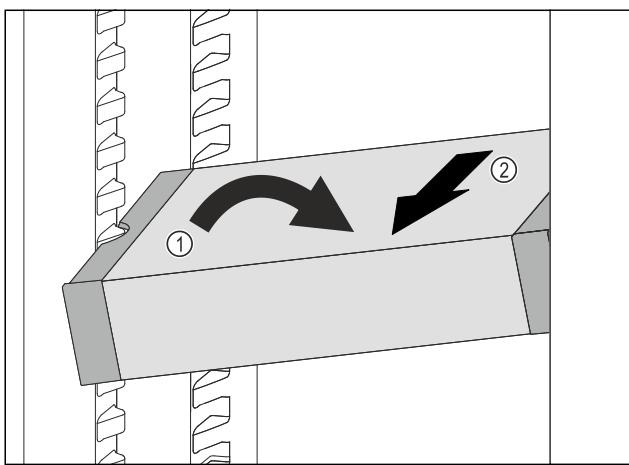

Fig. 127
- ▶ Set VarioSafe in refrigerator compartment at an angle. *Fig. 127 (1)*
- ▶ Take VarioSafe out to the front. *Fig. 127 (2)*